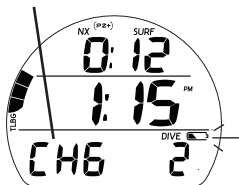

Fig. 2 - CHANGE BATTERY
- Battery icon appears flashing with graphics CHG >> BAT alternating (Fig. 2) upon entry into Surface Mode, then after 5 seconds the unit shuts off.